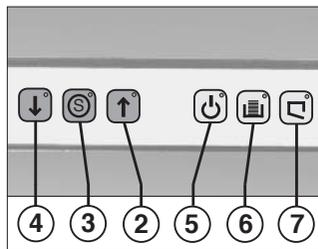

fig. 2
- 2 = „Cutting system forward“ pushbutton (fig. 2)**
- 3 = „Cutting system stop“ pushbutton (fig. 2)**
- 4 = „Cutting system reverse“ pushbutton (fig. 2)**
- 5 = Pilot lamp „ready“ (fig. 2)**
- 6 = Pilot lamp „receptacle full“ (fig. 2)**
The pilot lamp marked „ready for operation“ (5), as well as the red stop-button „S“ (3) (fig. 2) will light to indicate that the machine is ready for operation.
When the receptacle is full, the machine turns off automatically and a horn sounds. The pilot lamp (6) (fig. 2) lights up. Empty the receptacle as follows:
- Open door. The pilot lamp (7) (fig. 2) lights up.
- The horn stops. The pilot lamp (6) goes off.
- Place empty sack into receptacle, push in the receptacle and close door. The pilot lamp (7) goes off.
- The pilot lamp of the stop-button „S“ (3) (fig. 2) will light.
- Briefly operate the pushbutton switch for reverse (4) (fig. 2).